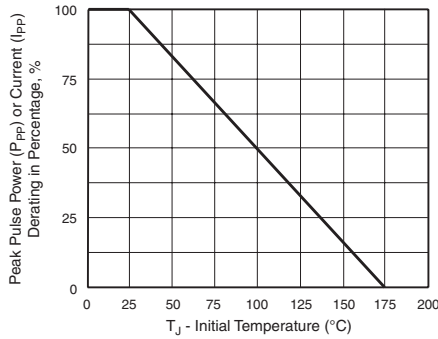
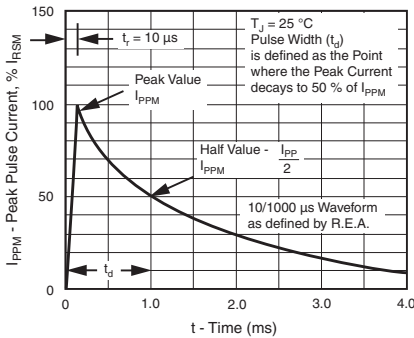

Figure 2. Pulse Power or Current vs. Initial Junction Temperature
Figure 3. Pulse Waveform
- (1) Pulse test:  $t_p \leq 50\text{ ms}$
- (2) Surge current waveform per Fig. 3 and derate per Fig. 2
- (3) For bi-directional types with  $V_{WM}$  of 10 V and less, the  $I_D$  limit is doubled
- (4) All terms and symbols are consistent with ANSI/IEEE C62.35